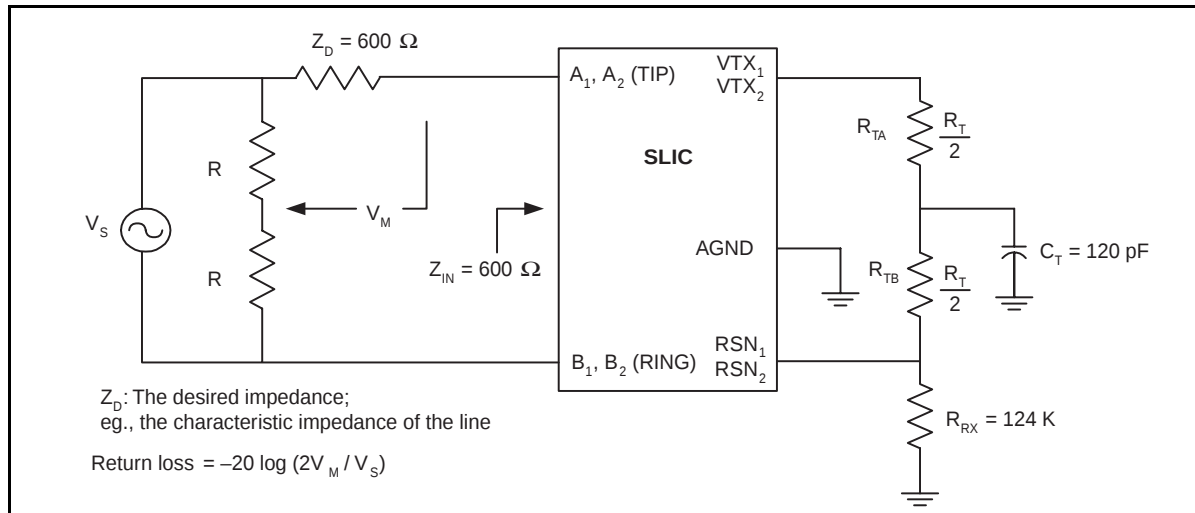

Figure 6 - Two-Wire Return Loss Test Circuit
5. Group delay can be greatly reduced by using a Z_T network such as that shown in Figure 6. The network reduces the group delay to less than $2\ \mu s$ and increases 2WRL. The effect of group delay on linecard performance also may be compensated by synthesizing complex impedance with the QLSLAC™ device.